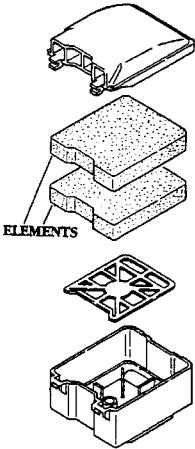

FIG. 13
1. (FIG. 13) Air Cleaner – The air cleaner elements must be removed and cleaned every twenty-five hours or at the beginning of each season. More frequent cleaning is recommended under very dusty conditions. Thoroughly wash the elements in liquid detergent and water. Press the elements in a rag until they are completely dry, saturate them in 2-cycle oil or the equivalent. Squeeze the elements to distribute the oil and to remove any excess oil. Replace elements and install cover.